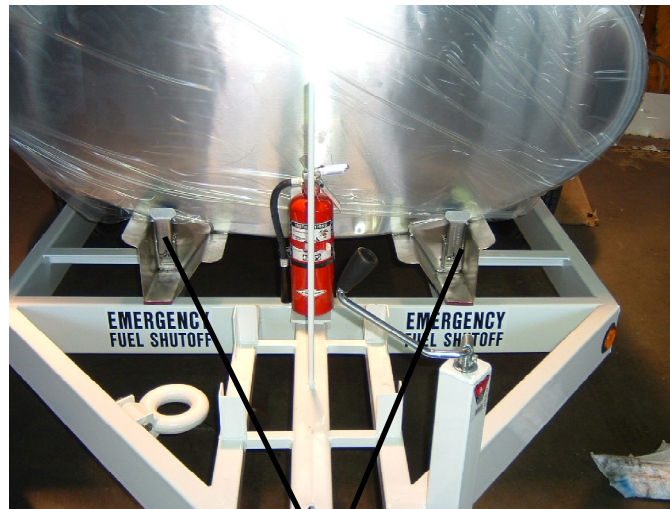

Fig 6.15
- d. Grounding Reels: The unit is supplied with two (2) grounding reels. Before filling, draining, or when unit is unattended, the grounding reels must be attached to an appropriate ground.
- g. Emergency shutoff: There are two emergency shut off levers located on both sides of the unit. In case of an emergency where fuel flow needs to stop, pull one of the two Levers to close the bottom tank drain valve. (Note: the emergency lock out box will need to be reset prior to using the unit) **See Fig 6.15**